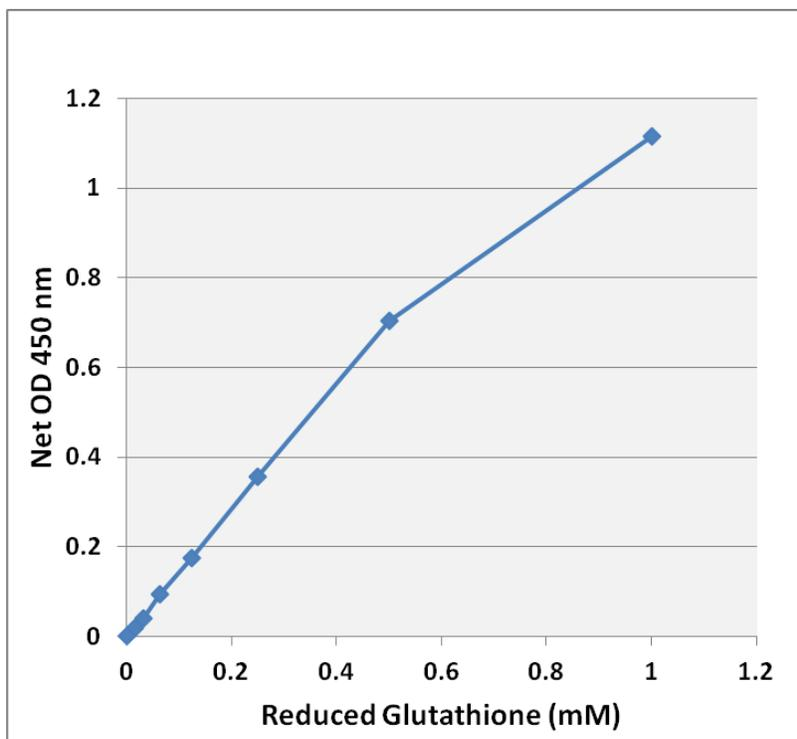

Figure 1: Reduced Glutathione standard curve.
3. Graph the standard curve (see Figure 1).